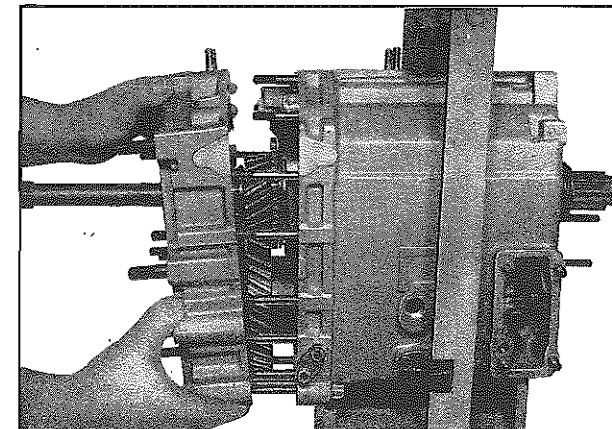

Fig. 14 - Parte anteriore della scatola
- Loosen nuts **(102)** on housing front end **(109)** and lift off housing front end **(Fig. 14)**.